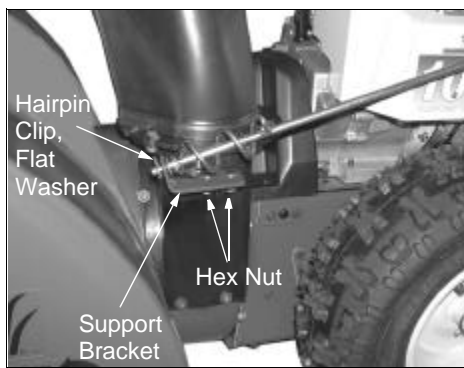

Figure 6
(Follow steps 13 through 15.) Loosen the two hex nuts which secure chute crank support bracket to the snow thrower housing beside discharge chute. See Figure 6.
9. Remove the hairpin clip and one flat washer from the lower end of the chute crank. Leave the other flat washer in place on the end of the chute crank. See Figure 6.
10. Insert the end of the crank into the hole in the plastic bushing in the chute crank support bracket. Place the other flat washer onto the end of the crank, and secure with hairpin clip. See Figure 6.